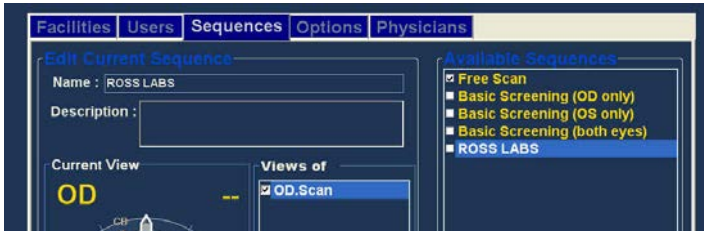

Figure 4.18 - New Sequence - New View Active
1. Select the first view, or scan, of the new sequence by either clicking in the checkbox or double clicking on the scan title (e.g. OD.Scan) as shown in Figure 4.18 below.